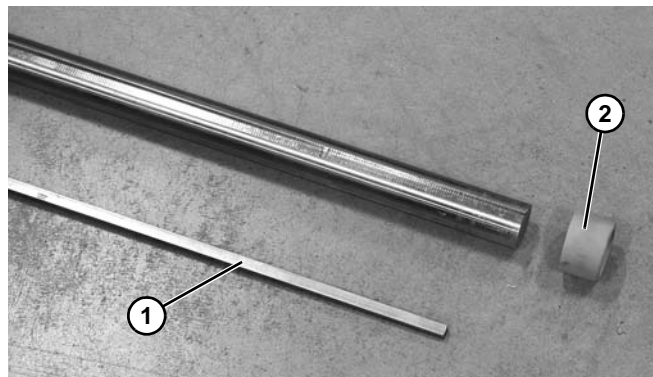

Figure 62
12. Remove drive spindle key (**Figure 62, item 1**) and spacer (**Figure 62, item 2**).